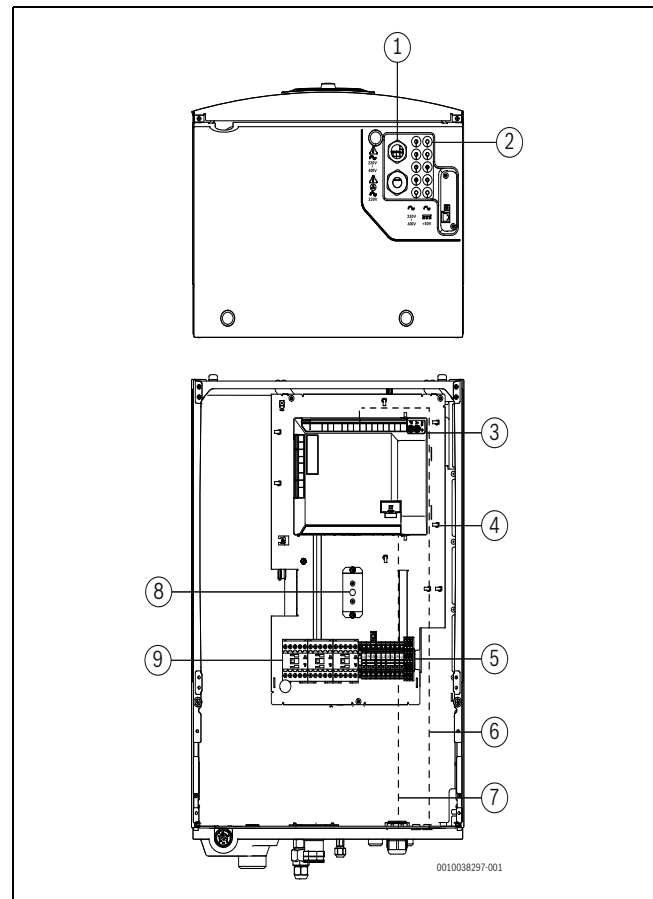

Fig. 10 Cable feeds (bottom and front view)
- ▶ Insert the CAN-BUS, sensors and other signals circuit cables through the respective cable feed, marked with <50V. Lead the cables all the way until they reach the front of the appliance and connect them as indicated in Fig. 10.